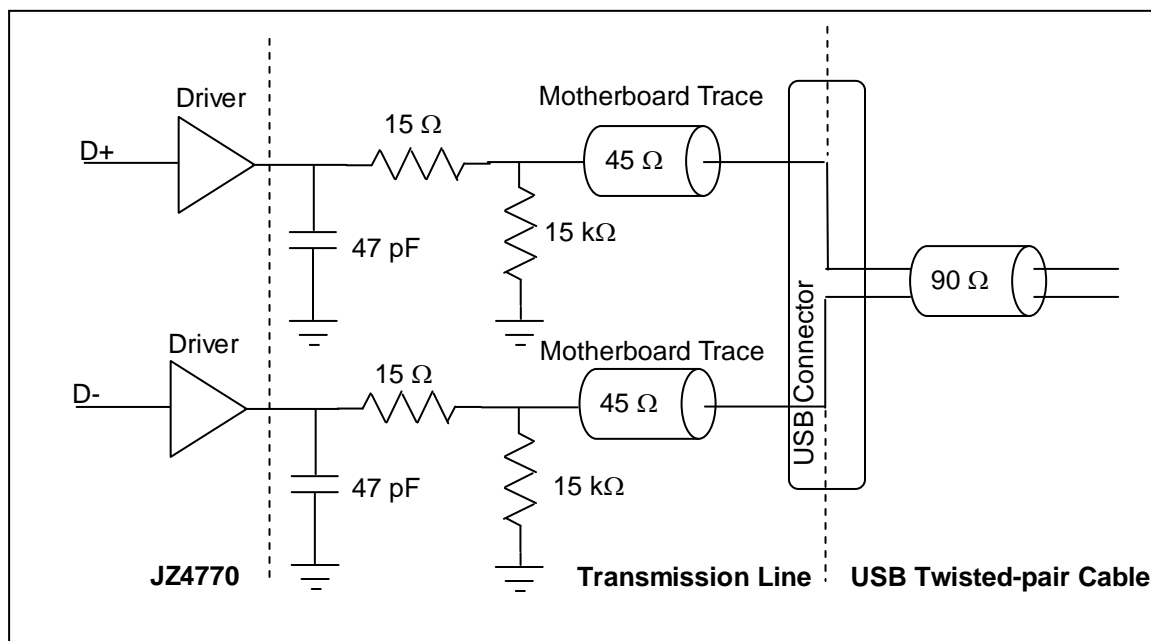

Figure 7-3 Recommend USB Host Schematic
- The trace impedance for the DP and DM signals should be 45 Ω (to ground) for each USB signal DP or DM. This may be achieved with 9-mil-wide traces on the motherboard based on the stack-up recommended in Figure 7-3 7-4. The impedance is 90 Ω between the differential signal pairs DP and DM, to match the 90 Ω USB twisted-pair cable impedance. Note that the twisted-pair characteristic impedance of 90 Ω is the series impedance of both wires, which results in an individual wire presenting 45 Ω impedance. The trace impedance can be controlled by carefully selecting the trace width, trace distance from power or ground planes, and physical proximity of nearby traces.